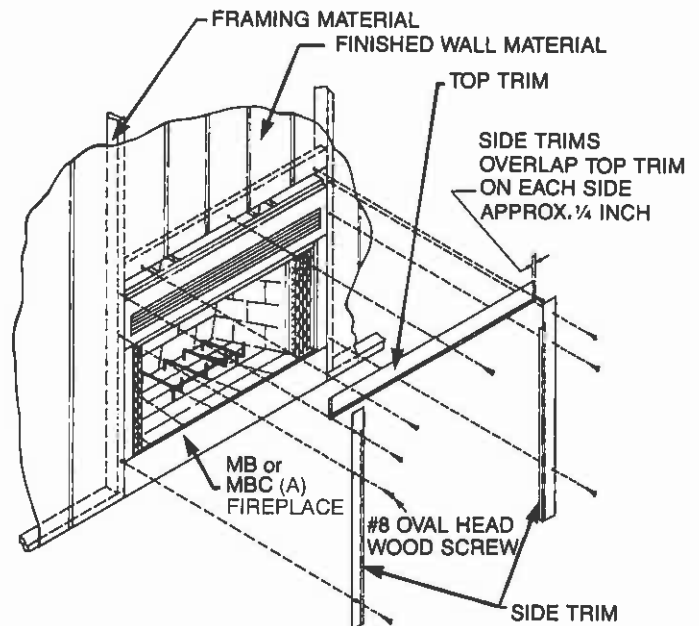

Fig. 1. Typical installation of trim kit.
Attach top trim piece by first placing the alignment angle on the top edge of the fireplace surround. Center the trim on the fireplace and install three (3) #8 oval head wood screws provided with the kit. If the screw is difficult to install, predrill a 1/8 inch diameter pilot hole in the wall finishing material and header. See Figs. 1 and 2 for additional installation details.
The side trim is installed in a similar manner to the top trim. The side trim top notch should be fitted over the ends of the top trim. Side trim is intended to overlap the fireplace surround by approximately  $\frac{1}{4}$  inch. Install the top screw first and then use a ruler to be sure the trim is parallel to the fireplace side. Install the other two (2) screws. When installing the second side trim, be sure it overlaps the fireplace by the same amount as the first side trim. See Figs. 1 and 2 to clarify installation details.